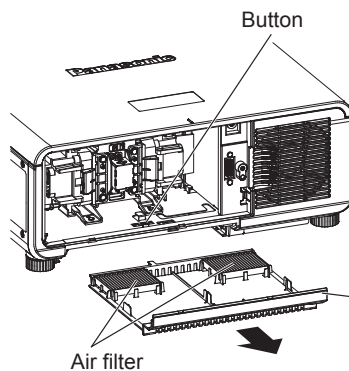

Fig. 2
2) Pull out the air filter case. (Fig. 2)